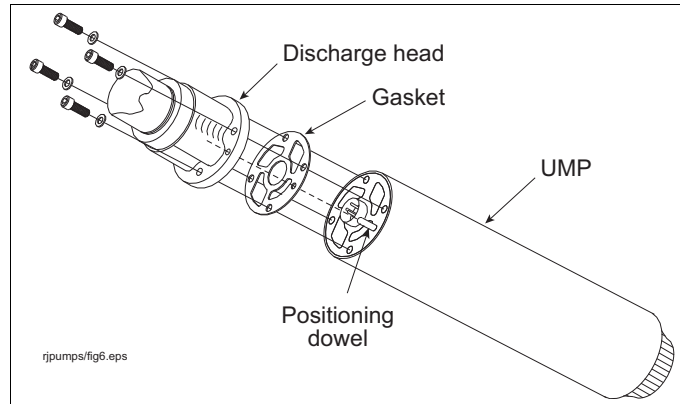

Figure 30. UMP Bolts And Gasket
4. Remove the old UMP by removing the four bolts holding the discharge head as shown in Figure 30. Discard the old gasket and fasteners.